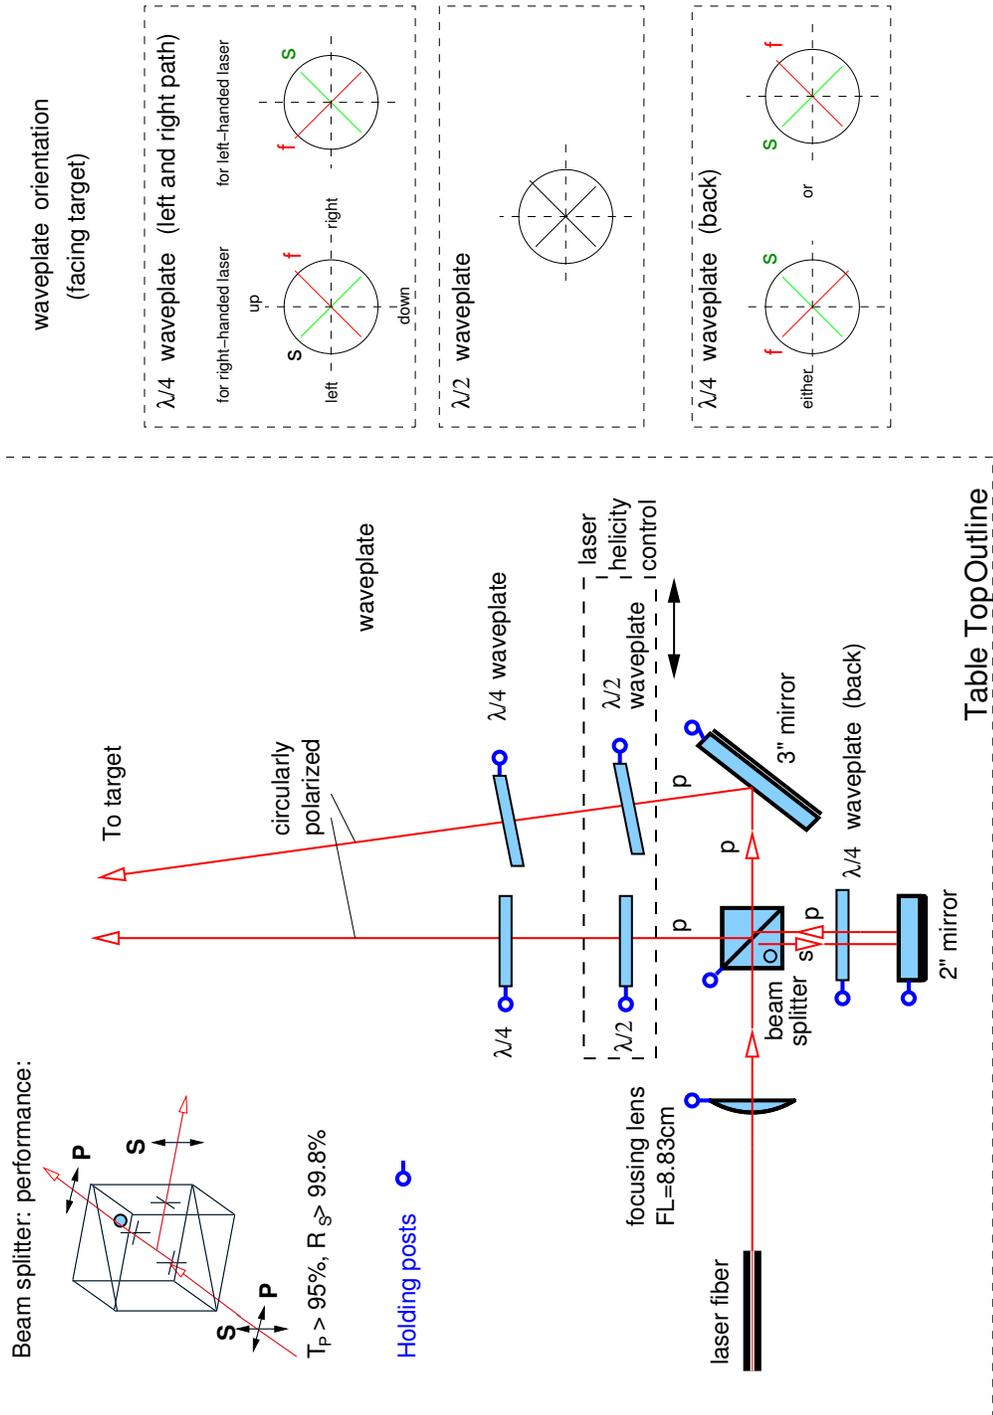

Figure 1.2: Top view of the optics setup.
Now both beams from each laser have identical linear polarizations. Each passes through a $\lambda/4$ waveplate that transforms its polarization from linear to circular. The orientation of each $\lambda/4$ waveplate is shown in Fig. 1.2, note that all $\lambda/4$ waveplates should have the same orientation.
15. If you know the axes of quarter wave plate, rotate it according to Fig. 1.2. If not,
22. If you know the axes of quarter wave plate, rotate it according to Fig. 1.2. If not, you need to do bench test first to find the axes of each quarter wave plate.